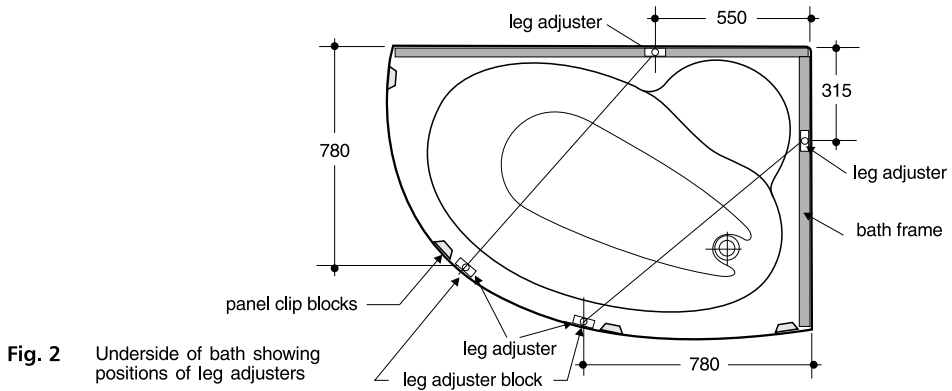

Fig. 2 Underside of bath showing positions of leg adjusters
2. FIT LEG ADJUSTERS (FIGS. 2 & 3) The leg adjusters should be fitted to the bath frame and leg adjuster blocks in the positions indicated in Fig. 2. Use No. 10 x 20 long round headed woodscrews supplied (Fig. 3).